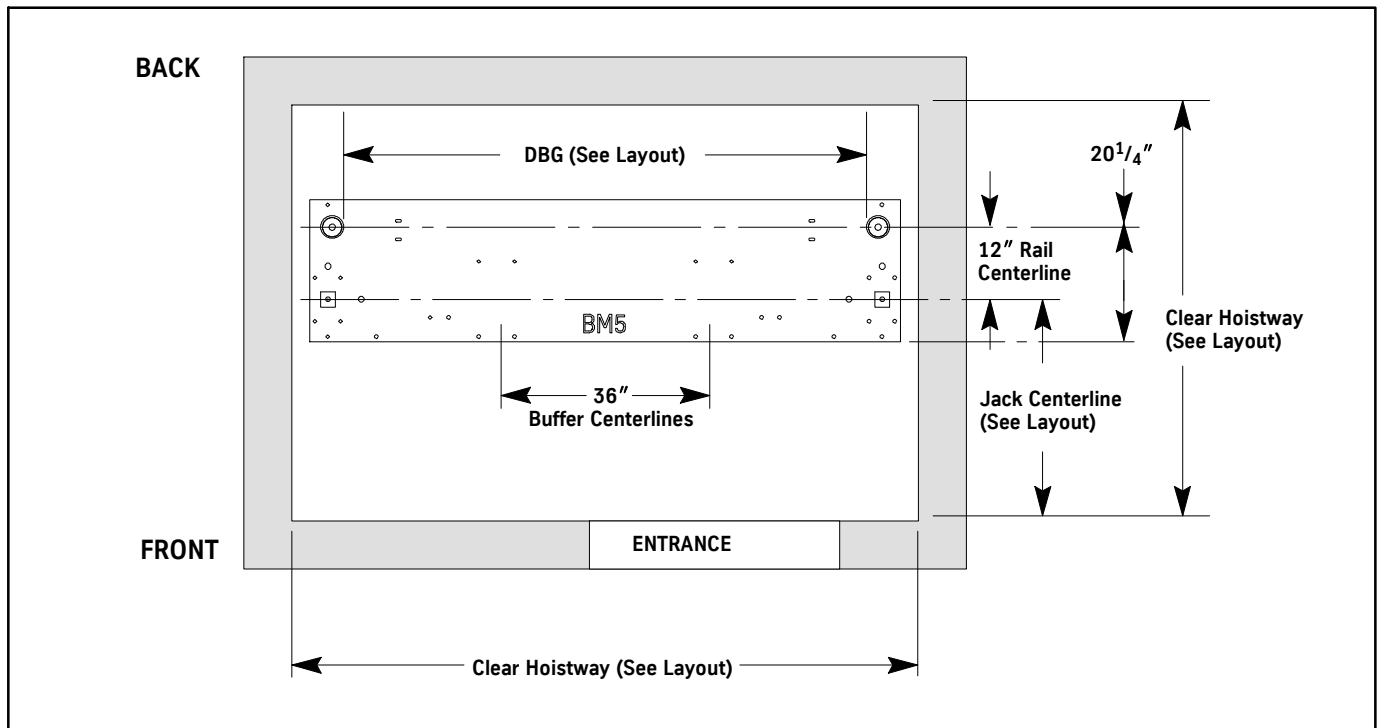

Figure 4 - Three-Stage Jack Layout (AMEE 25, 30, and 35 Shown. AMEE 21, 40, 45, and 50 Similar)
5. Adjust the pit template so that the rail and jack centerlines match the layout. See Figure 4.